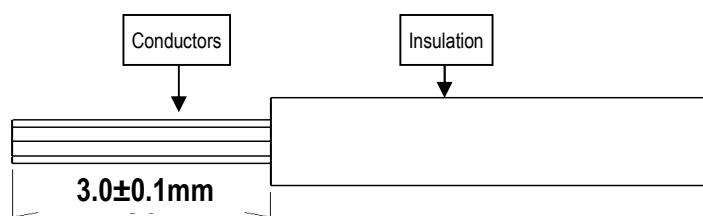

Fig 1.Wire strip
- ① Strip the insulation off by $3.0 \pm 0.1\text{mm}$ (see Fig.1)